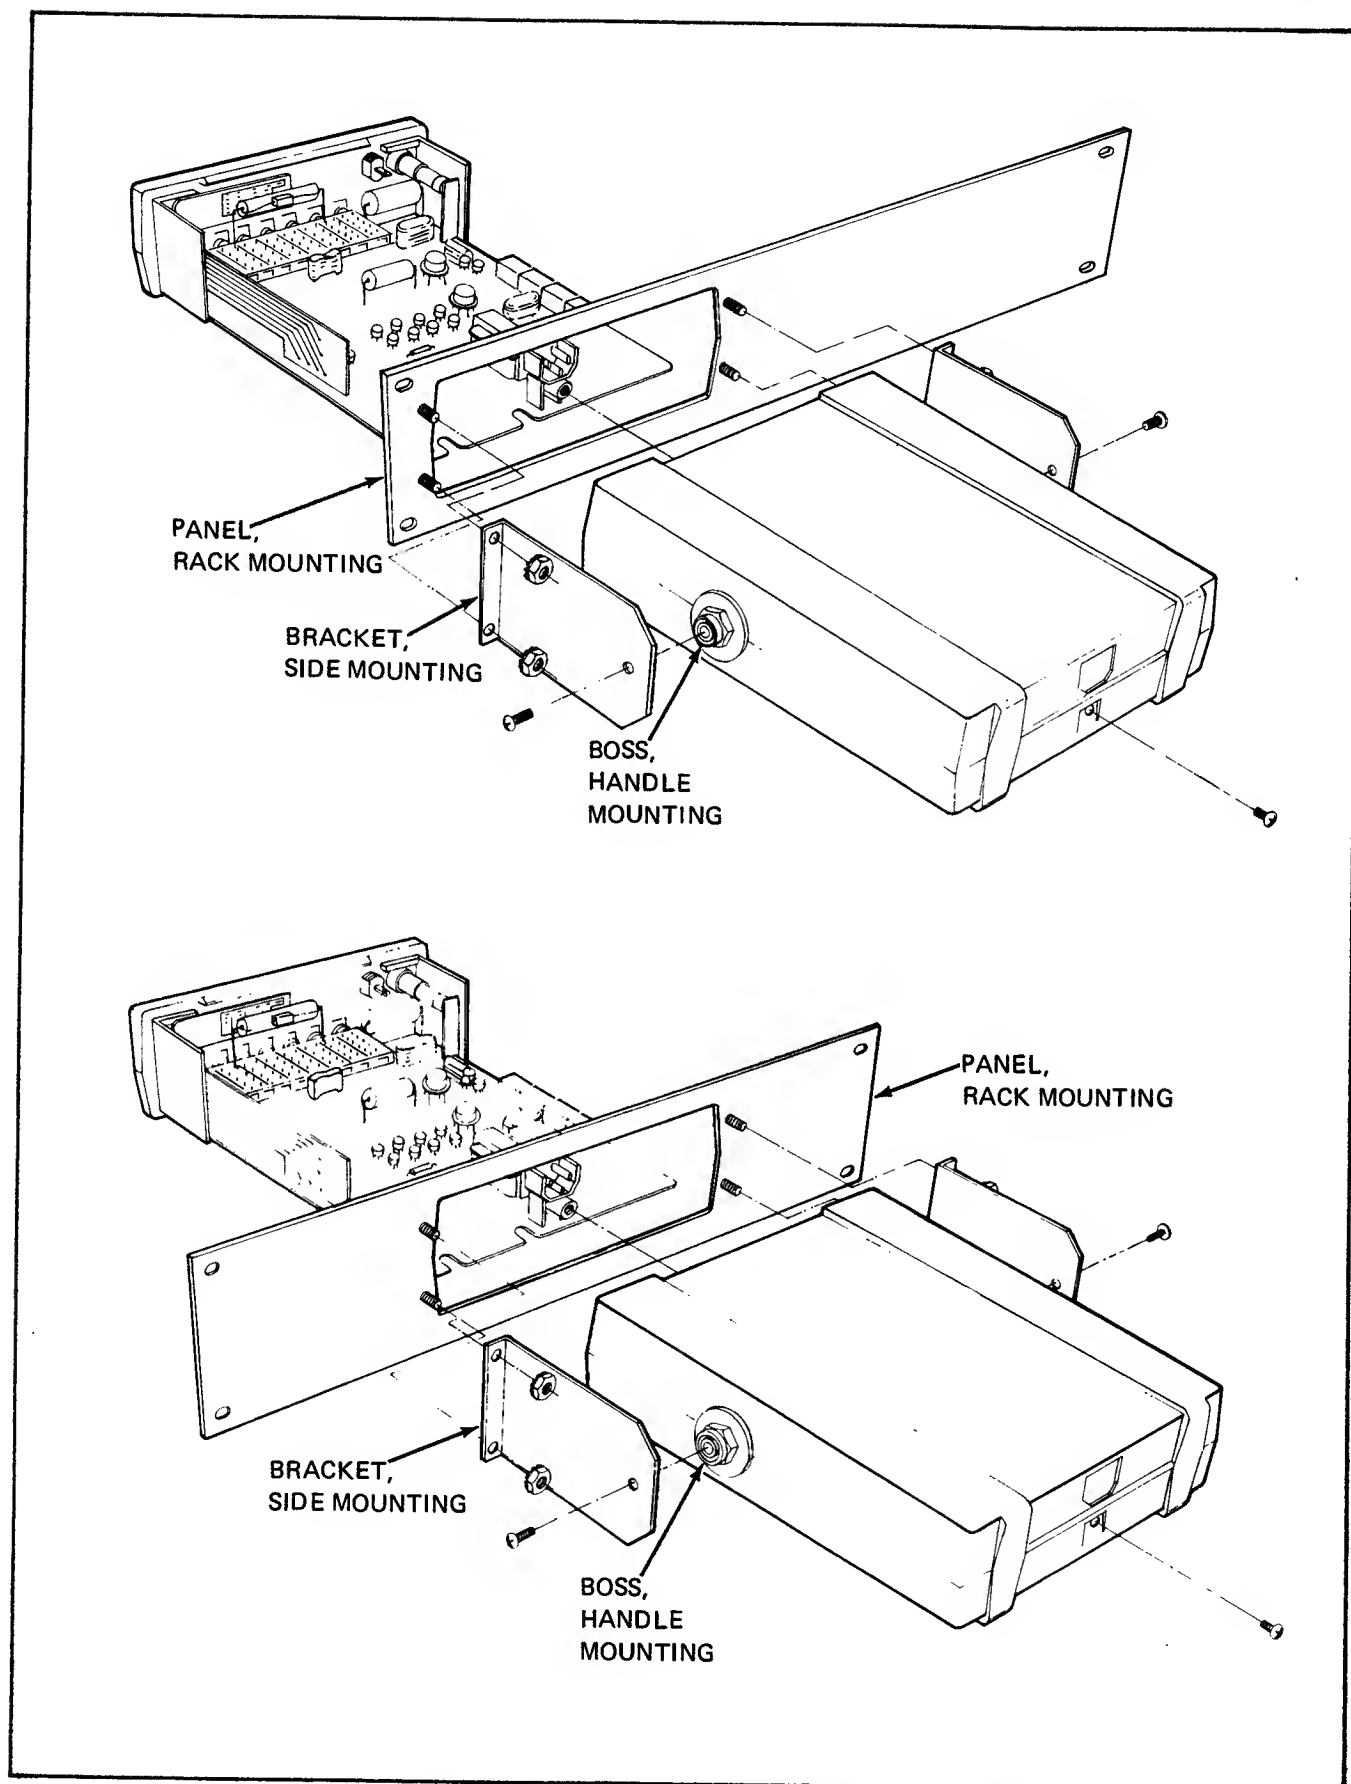

Figure 6-3. RACK MOUNTING KITS, OFFSET AND CENTER MOUNTING
- c. Install the side mounting brackets, as shown in Figure 6-3, and secure them to the mounting panel using the nuts provided.